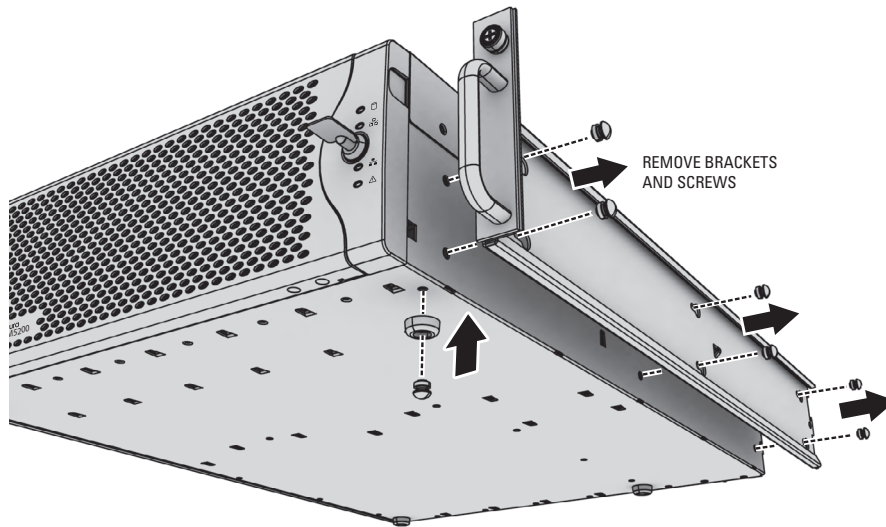

Figure 5. Installing Rubber Feet and Removing Brackets
1. Make sure the rubber feet are installed to prevent surface damage. If not, secure each rubber foot to the bottom panel of the unit (refer to Figure 5). Use the five 8-32 x 0.375-inch Phillips pan head screws (supplied).